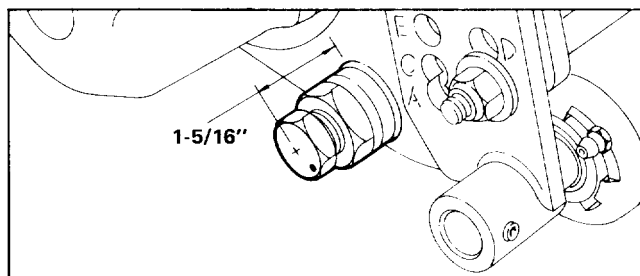

Figure 14
6. Mount left side of bedbar to sideplate with eccentric pivot bolt, jam nut and plastic washer. Position washer between bedbar and sideplate. Thread pivot bolt into bedbar until the distance from top of pivot bolt and sideplate is 1-5/16" with identification dot positioned to rear. Do not tighten jam nut at this time (Fig. 14).